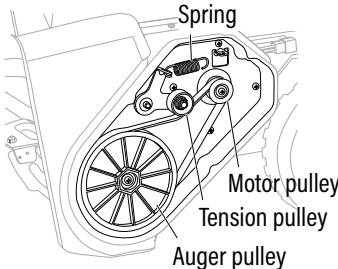

Fig. 14B
2. Remove the spring from the hook to release the belt tension (Fig. 14B).